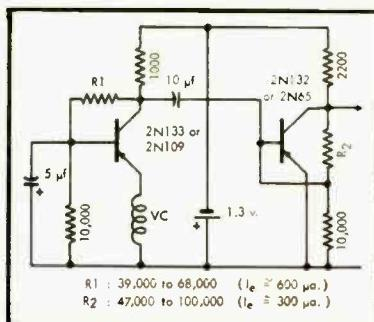

Fig. 5. Two-stage microphone amplifier with a power gain of 28 db and the comparatively low output impedance of 2200 ohms.
The input impedance of 50 ohms indicates a common-base input stage with a transistor having rather high current gain (100) so that the $R_b(1-\alpha)$ portion of the input resistance may be held to 10 or 15 ohms thereby allowing an emitter resistance of 35 or 40 ohms for a current of 600 or 700 μ a. Figure 5 shows a two-stage amplifier with a power gain of approximately 28 db and an output impedance of 2200 ohms. The corresponding output voltage for an input power of 1.15×10^{-11} watts (-79.4 dbm) is 4 millivolts or -48 dbv. This compares to -60.5 dbv (open circuit) for the same type of microphone at 35,000 ohms.
To return to Fig. 5: the capacitor from base to ground of the input stage may be described somewhat beyond the mere statement of its value. At first sight, it might be supposed that this value should be several hundred microfarads to avoid attenuation of low-frequency response in view of the 50-ohm input. Since such a capacitor would be by far the largest component in the preamp, it is fortunate for purposes of miniaturization that such is not the case. Although called, by precedent, a "bypass" condenser (since it bypasses the lower bias resistor) it shows up in an equivalent circuit as an impedance in series with R_b and, as such, in the common base circuit its impedance is reduced by the same factor ($1-\alpha$) as R_b . Consequently, the effectiveness of this capacitor in relation to low-frequency cutoff is increased as if its value were multiplied by $1/(1-\alpha)$ or $(\beta+1)$.